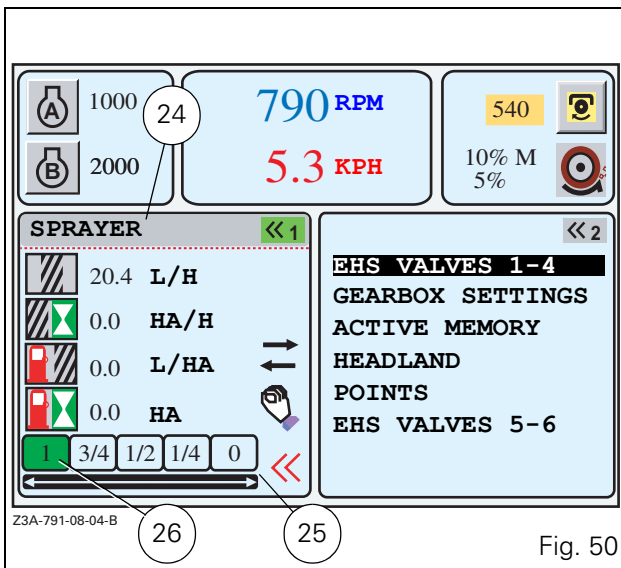
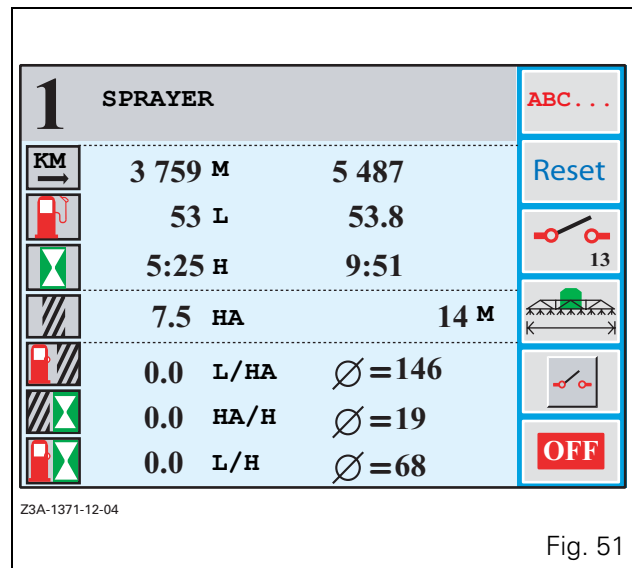
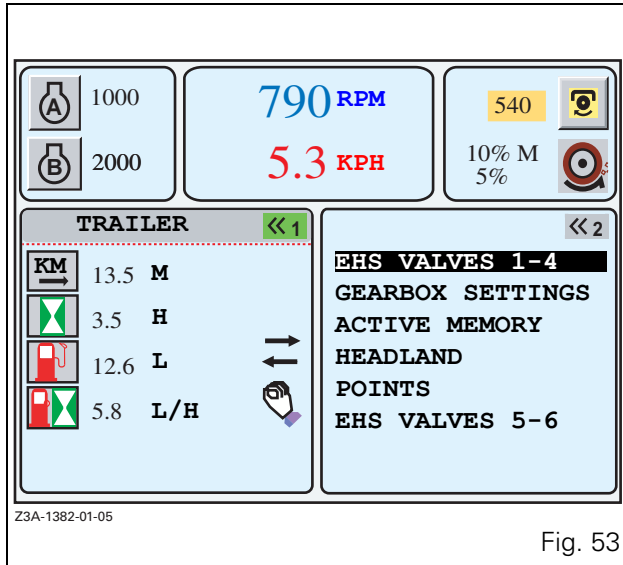

Fig. 50
Fig. 51
Fig. 53
- Validate by pressing the encoder or the key <<1. The window (Fig. 50) is displayed.
Field parameters: description (Fig. 50)
-  Allows field or transport parameters to be selected. When the window (Fig. 50) is open and active, the window (Fig. 53) is displayed.
-  Shortcut icon providing access to the **MEMORIES** application by pressing the key \llcorner_5 when the window is active. The window (Fig. 51) is displayed. (see section 7.3. MEMORIES application)
NOTE: When the window (Fig. 51) is open, press the key **ESC**. The window (Fig. 50) is displayed again if it was open previously.
NOTE: To carry out adjustments in the window (Fig. 51), see section 7.3. (MEMORIES application).
To select the correct icon, press the key \llcorner_6 when the window (Fig. 50) is open and the implement memory window is active.
When the total width of the implement is working, the first icon must be displayed in reverse video (26 Fig. 50). Then as the tractor moves forwards, the implement width must be reduced. For this purpose, press the key \llcorner_6 to select the corresponding fraction.
Transport parameters: description (Fig. 53)
-  Allows field or transport parameters to be selected. When the window (Fig. 53) is open and active, the window (Fig. 50) is displayed.
-  Shortcut icon providing access to the **MEMORIES** application by pressing the key <<5 when the window is active. The window (Fig. 51) is displayed. (see section 7.3. MEMORIES application)